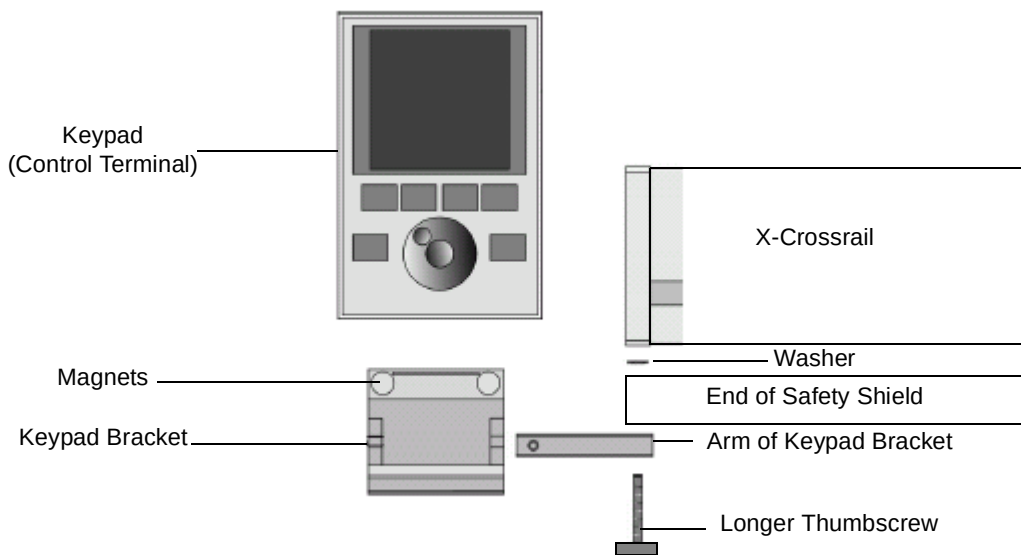

Figure 2-10 Installing the Keypad on the Left Side
- c. Install the arm of the keypad bracket on either the right or left side of the X-crossrail using the longer thumbscrew and one washer (Figure 2-10).